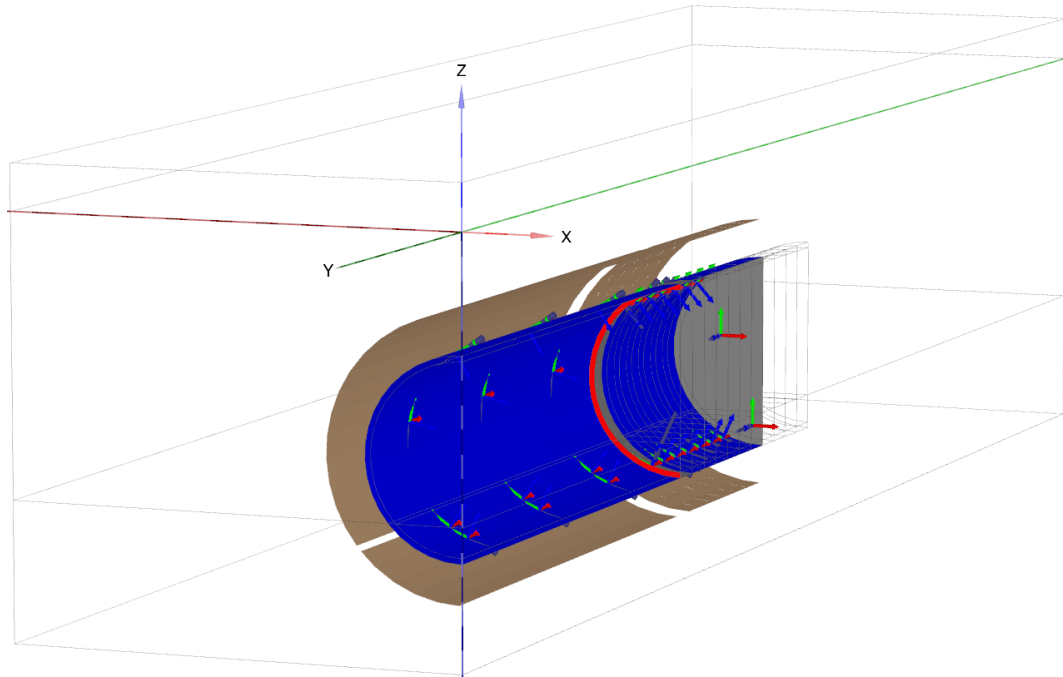

Figure 88: Deactivation of jack forces (25.0 m) for non-moving TBM
6. In the drawing area select the lateral surfaces between 0 to 25.0 m at the rear of the TBM lining as displayed in Figure 88 (on page 112). Then in the **Selection explorer**, deactivate the **Surface load** by deselecting the corresponding check box.